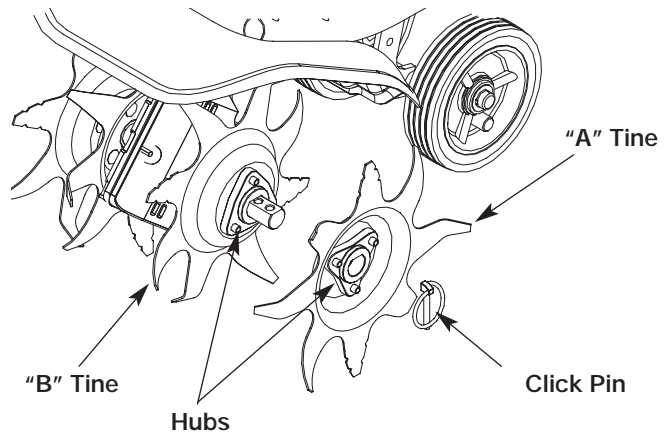

Fig. 15
- Remove the click pin from each end of the tine shaft. Slide the tines off of the shaft (Fig. 15).